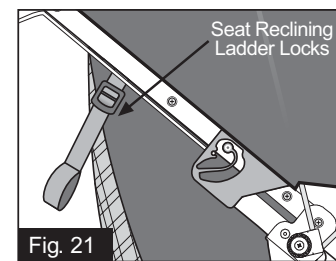

Fig. 21
12. RECLINING SEAT: Set parking brake before making any seat adjustments. To recline the seat, rotate the ladder lock buckles (Fig. 21) forward thus releasing the reclining straps. To raise the seat, pull the reclining strap loops until you obtain the desired position. The seat back can be adjusted to recline anywhere between the fully upright position and the fully reclined position (Fig. 21 & 22).